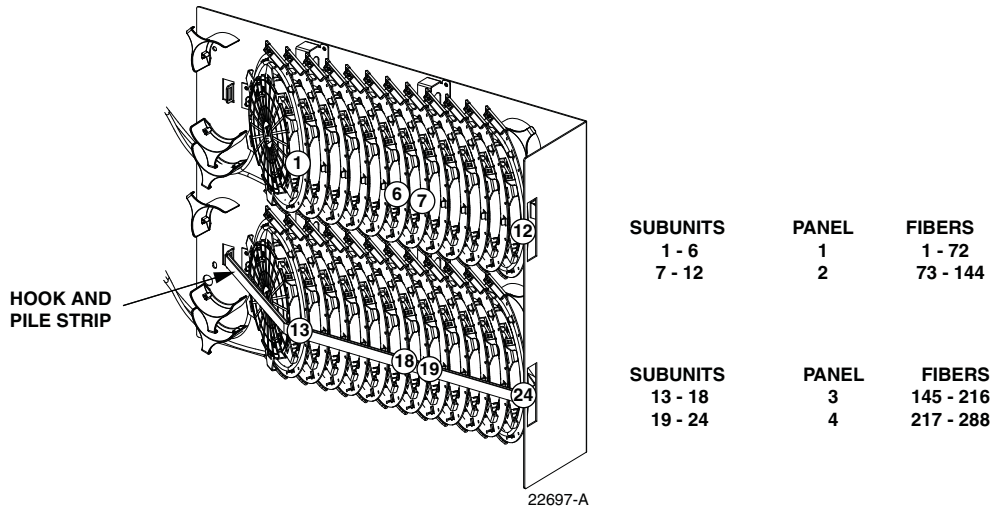

Figure 34. Distribution Splice Wheel Assembly
3. Refer to Figure 34 to identify and locate the splice wheels for distribution panel #1.